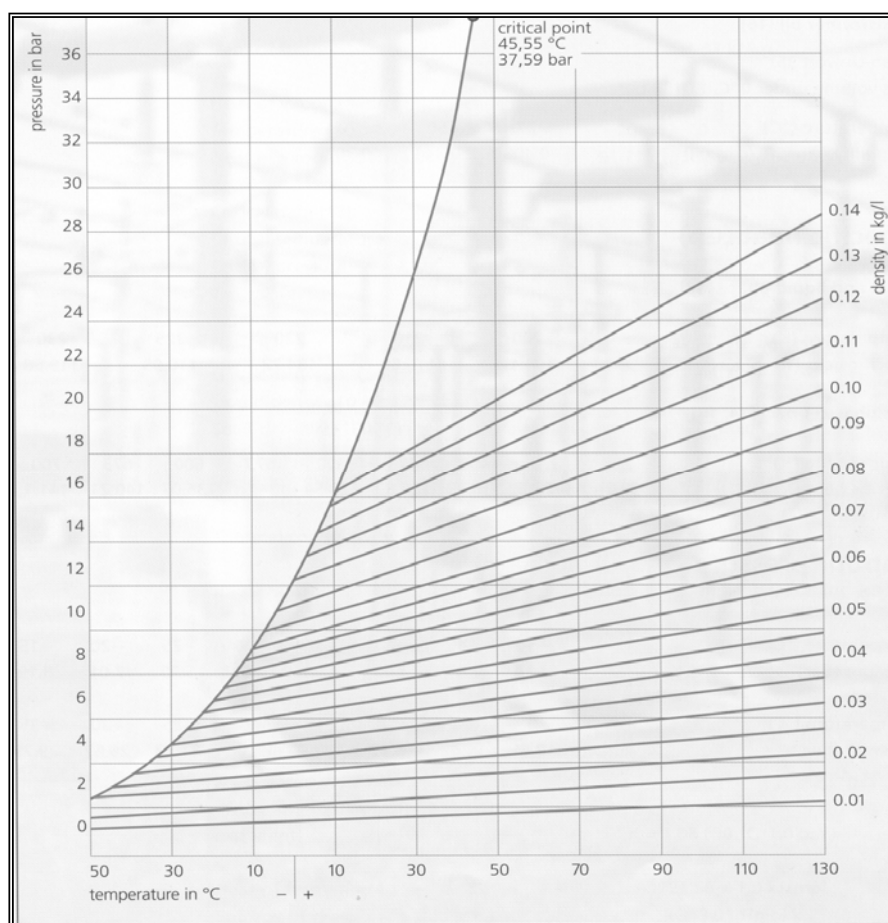

Figure 1a – Relationship between SF₆ Gas pressure, Density and Temperature.
- ii) Using an uncompensated pressure gauge or transducer and use the pressure/temperature/density characteristic given in figure 1a to determine the density or +20 °C equivalent pressure.